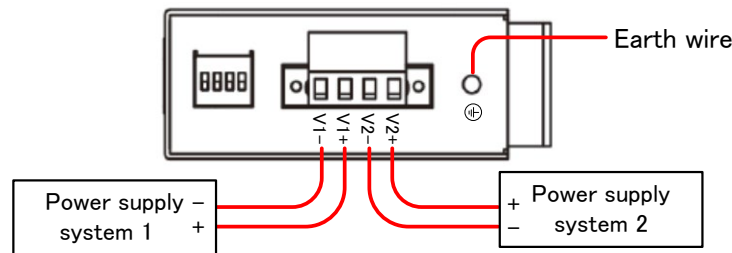

Figure 5.2 Power supply wiring (redundant power supply)
- 5) With the power line "+" side wired to "V 1 +" or "V 2 +" of the power terminal block, the power line "-" side wired to "V 1 -" or "V 2 -", and the grounding wire wired, DC 12 Turn on ~ 48V power supply. (By supplying the power supply system separately as shown in Figure 5.2, operation of this product can also be continued with the power system remaining when one side power supply path error occurs)